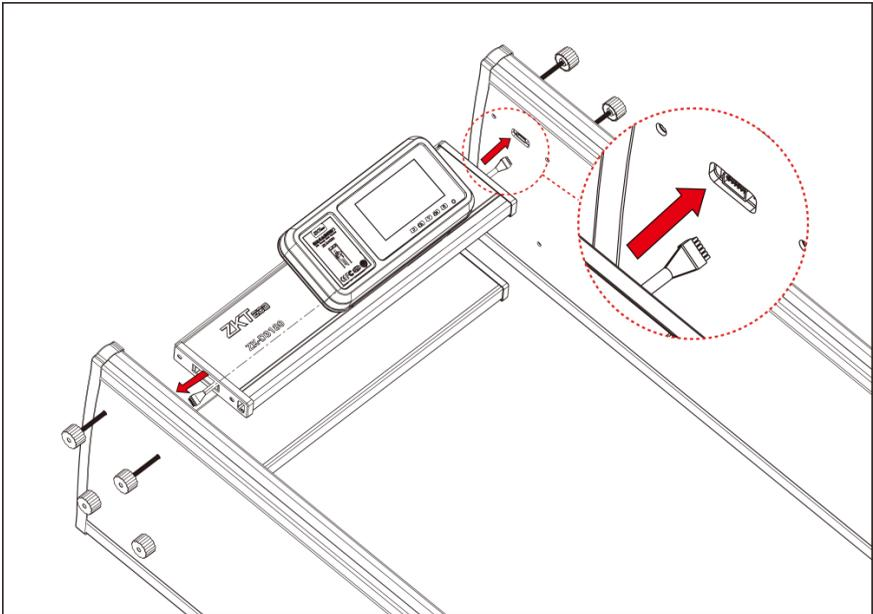

Figure 3-7
Step 7: Insert the left and right signal wire plugs, as shown in the figure 3-7 below (pay attention to distinguish the left and right signal wires).